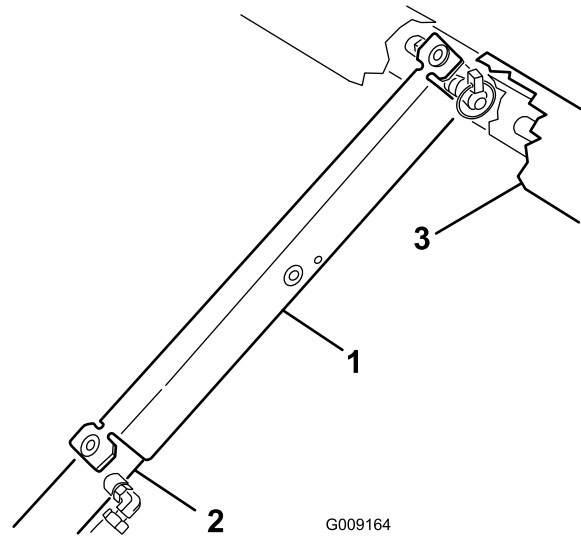

Figure 31
3. Push the bed support onto the cylinder rod, making sure that the support end tabs rest on the end of cylinder barrel, and on the cylinder rod end (Figure 31).